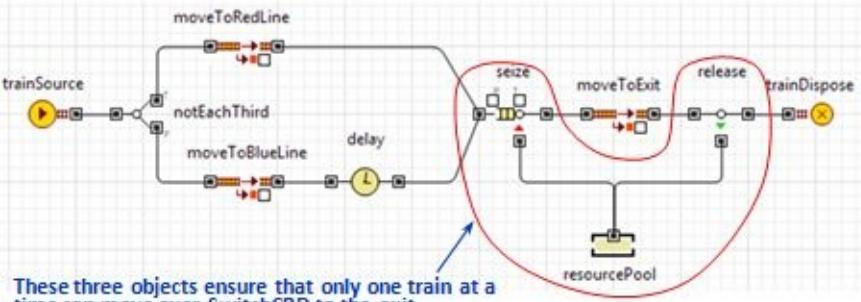

Figure 9.15 The problem definition for the example Ensuring safe movement of trains
13. Modify the flowchart by embracing the *moveToExit* object (the one where conflict actually occurs) with the pair **Seize** / **Release**, both connected to a **ResourcePool** as shown in Figure 9.15. Those three objects can be found in the **Enterprise Library** palette. Leave all parameters with default values.